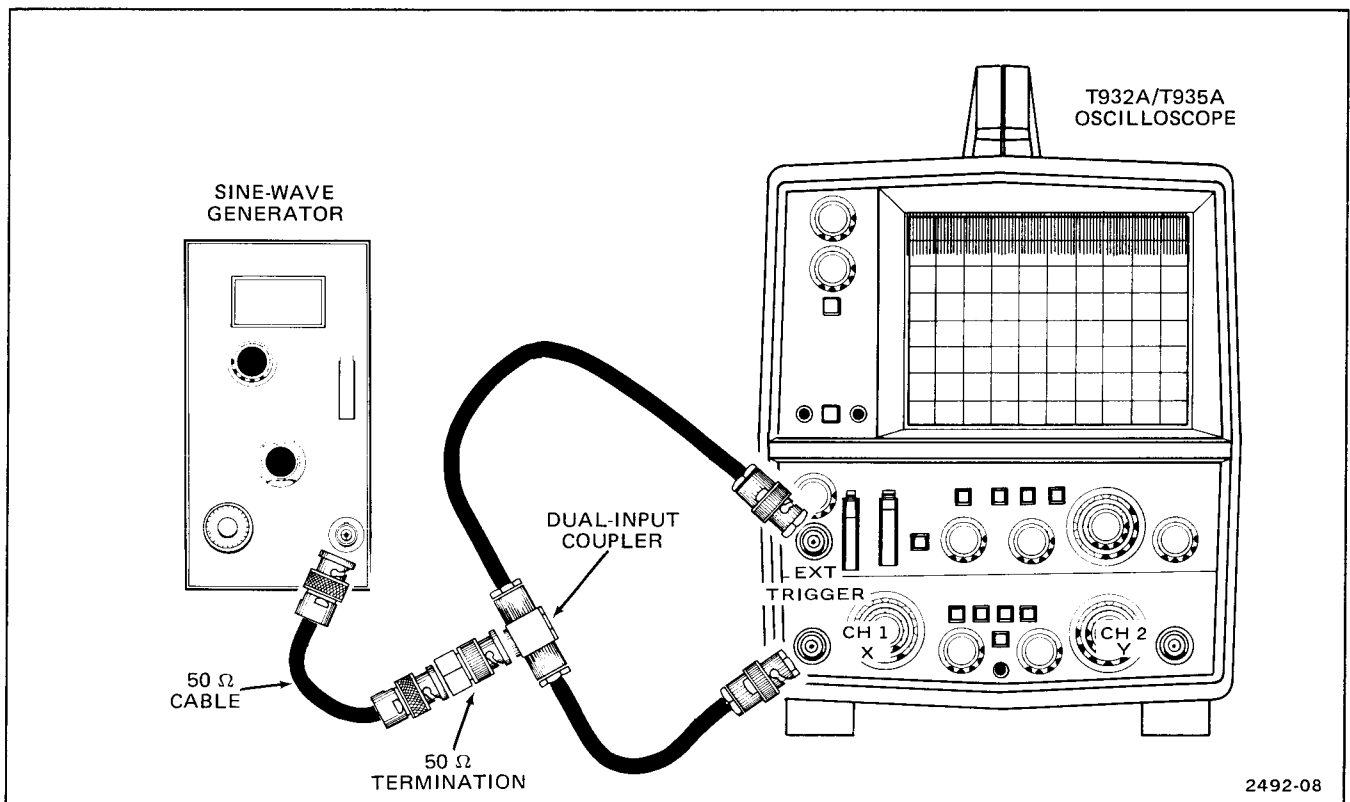

Fig. 3-3. X Gain, Triggering, and Z-axis input check test setup.
- a. Connect test equipment as shown in Fig. 3-3.